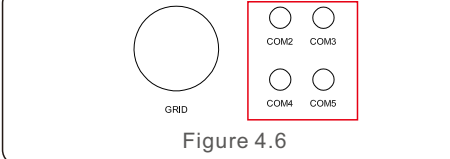

Figure 4.6
b. Remove the cap nut from the waterproof cable glands labeled at the bottom of the PV Inverter. Remove the plug from the fitting. (see Figure 4.6).